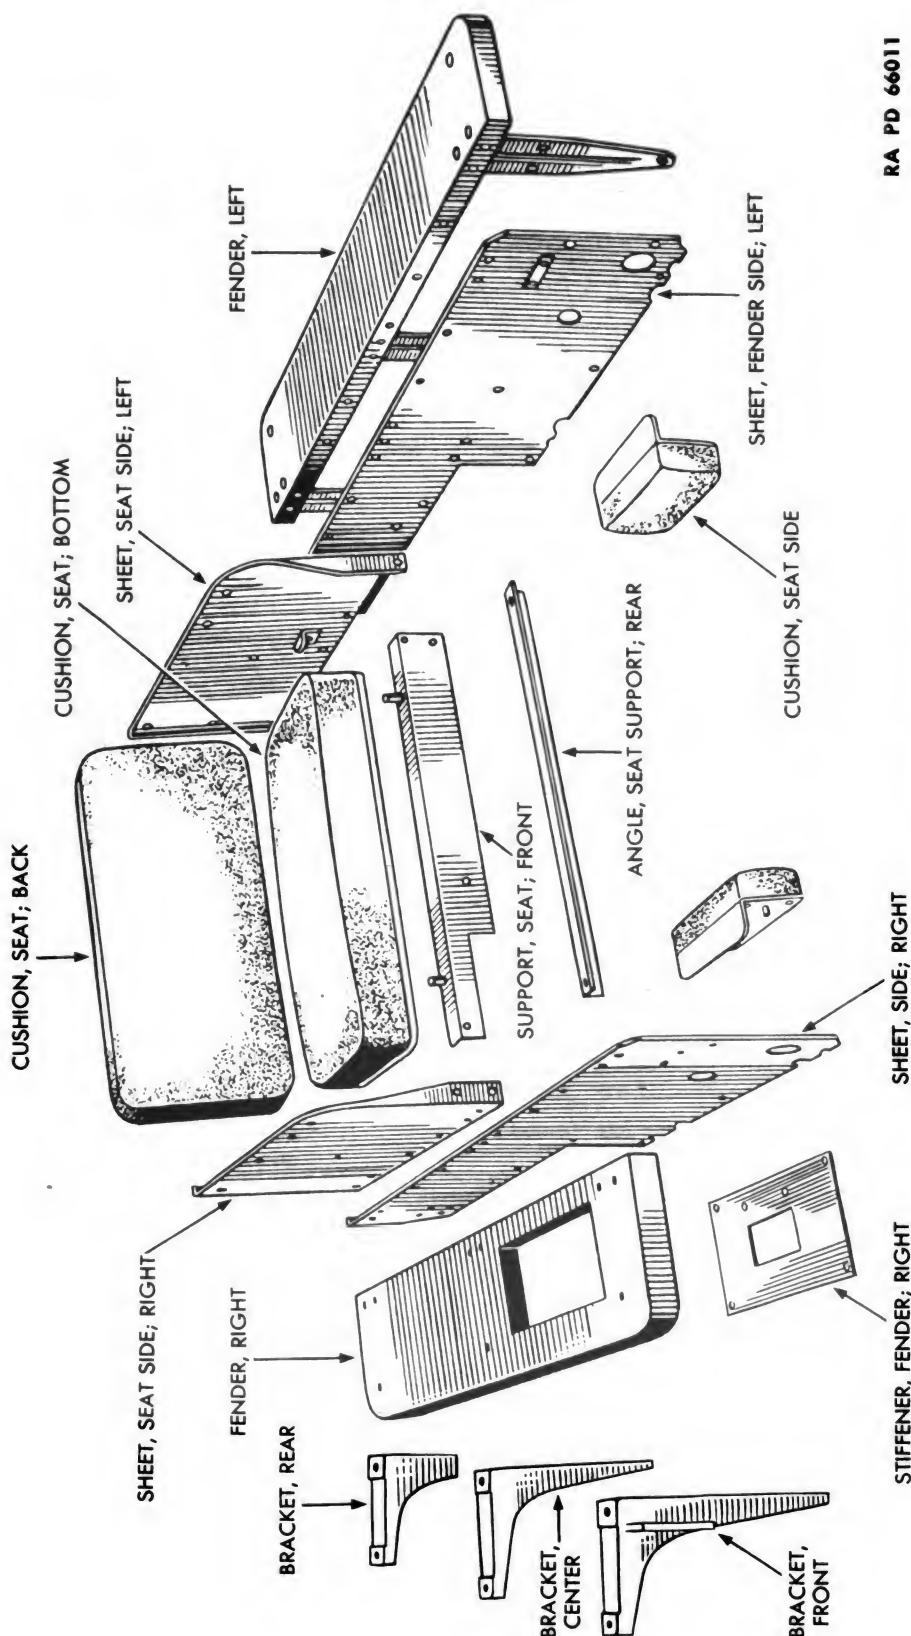

Figure 196 — Seat and Fenders (Lot 1) Parts
Use two $\frac{3}{4}$ -inch open-end wrenches to remove 2 bolts, nuts, and lock washers which hold footrest to fender. Lift off footrest. NOTE: Lot 1 tractors are equipped with one-man seat and fenders. To facilitate removal and installation, components of the lot 1 seat and fenders are illustrated in figure 196.
b. Procedure. Throughout the operations in this paragraph, bolt and cap screw holes of attaching parts should be placed in alinement by inserting and leaving one or more assembly punches into holes while initial bolts or cap screw are installed. NOTE: Lot 1 tractors are equipped with one-man seat and fenders. To install seat and fenders on lot 1 tractors, refer to figure 196. Procedure outlined here covers four-man seat and fenders, which are used on lots 2, 3, and 4.